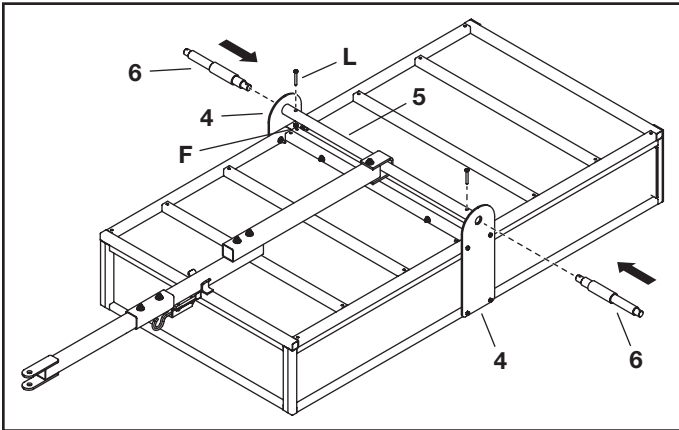

FIGURE 4
STEP 4: (SEE FIGURE 4)
- Attach the tongue assembly to the frame assembly by inserting the short end of the two axle spindles (6) through the axle mounting plates (4) and threading into the axle tube (5). Thread axle spindles until snug and then loosen until holes in the axle tube and spindles are aligned. Secure the two axle spindles to the axle tube using two M6x45 mm bolts (L) and M6 locknuts (F).